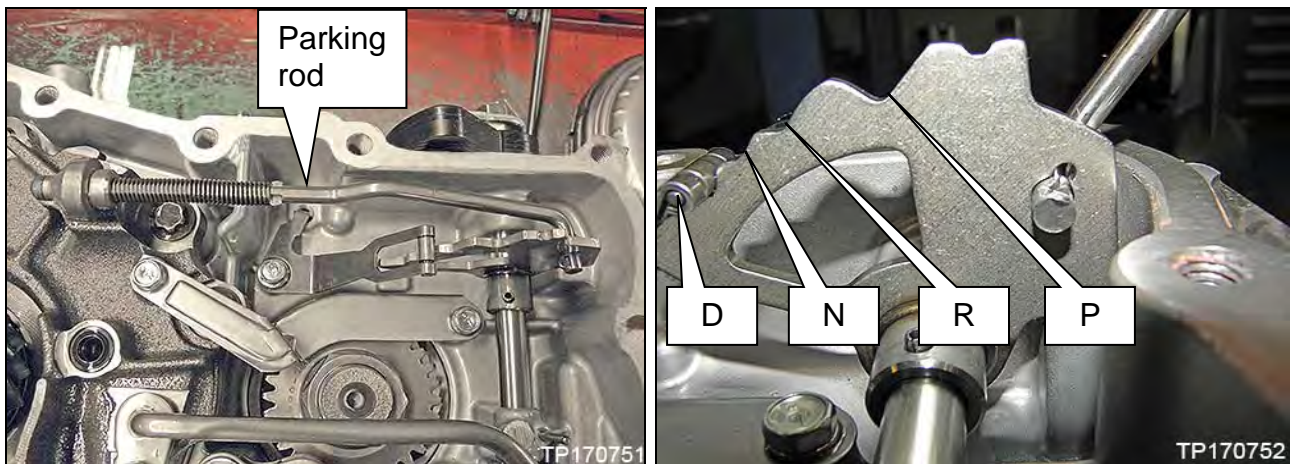

Figure 11R
12. Rotate the detent plate until the detent is in the "D" position (see Figure 11R).